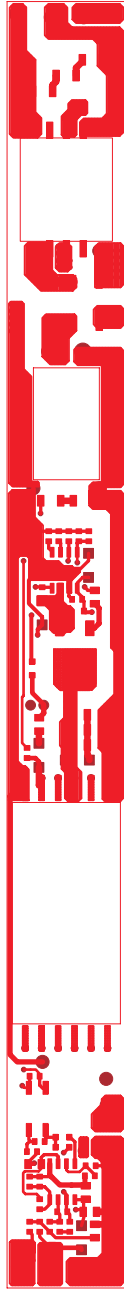

Figure 3. Top Copper
Figure 3 through Figure 4 shows the design of the T8 EVM printed-circuit board (PCB). The PCB dimensions are 220 mm (L) x 18 mm (W) x 10mm(H); the PCB materials FR406 or compatible, two layers, and 2-oz copper on each layer.